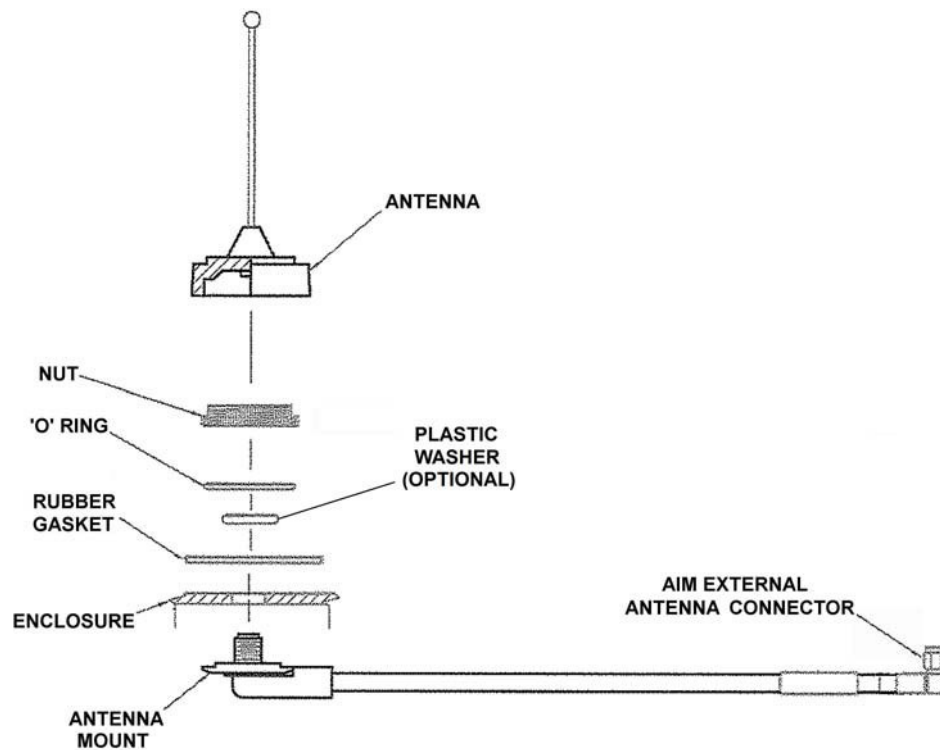

Figure 6. External Antenna Assembly
17. (External Antenna Kit) See Figure 6. If applicable, install the external antenna. There should be a 7/16-inch hole cut in the enclosure (from step 7) to mount the external antenna:
NOTE Some antennas have a white plastic washer (shown as OPTIONAL in Figure 6) on the underside of the brass nut; some don't. The antenna will perform as needed with or without the washer.
- h. All remote antennas have antenna mounts similar to the mount shown in Figure 6. Insert the antenna mount up through the antenna mount hole in the bracket.